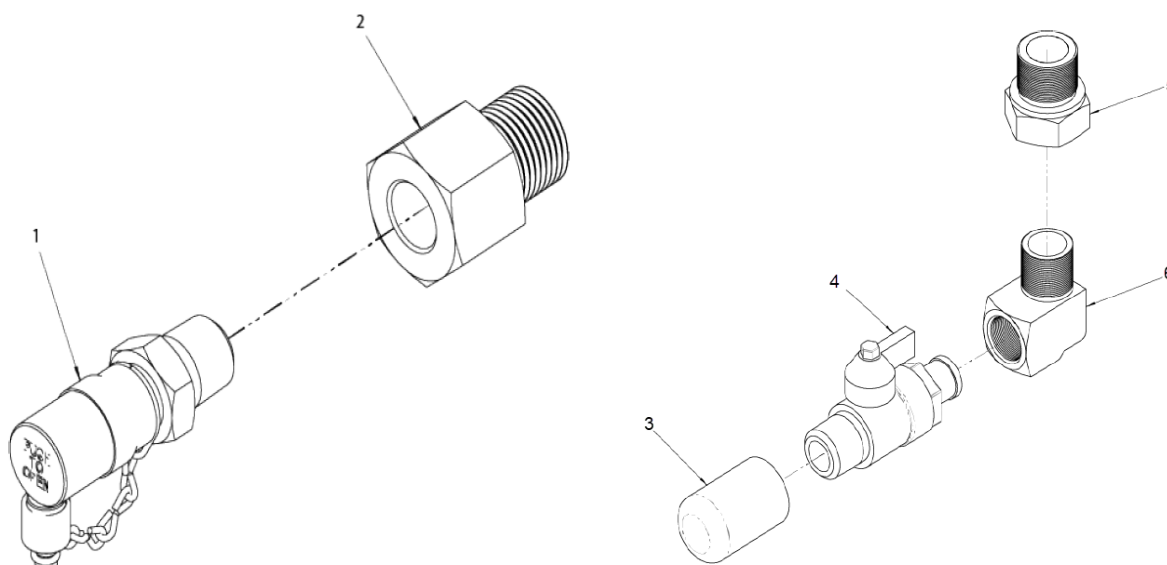

Figure 169. Oil Drain and Oil Sample Valve Assembly
2. Attach a collection hose to the fitting (Figure 169, Item 4). Drain the oil into a suitable container. When the oil has completely drained, close the valve, remove the hose, and reinstall the rubber cap. Dispose of the drained oil in accordance with environmental regulations.